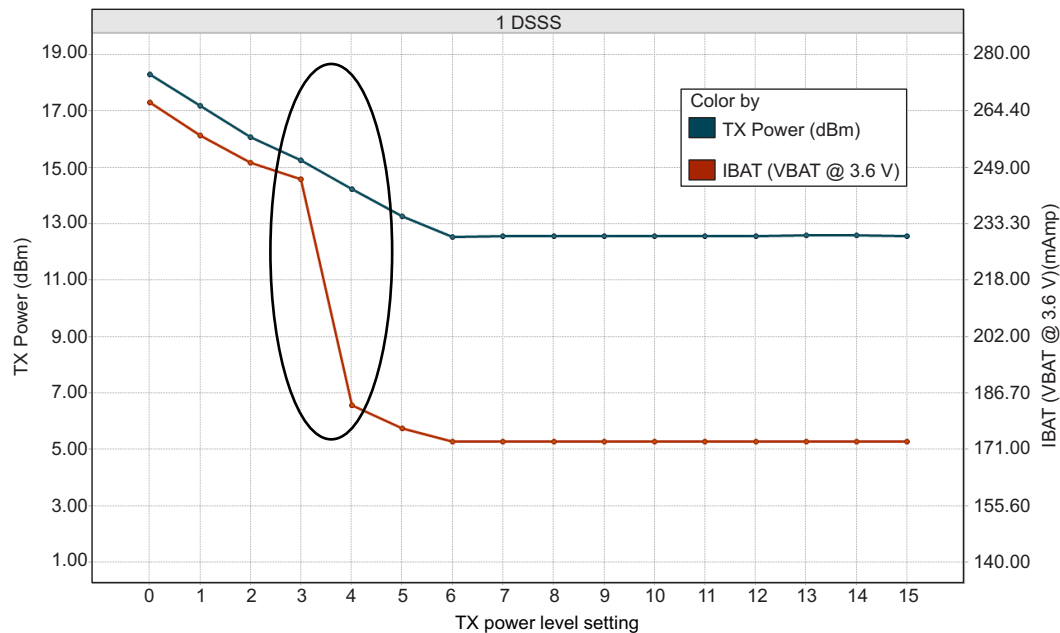
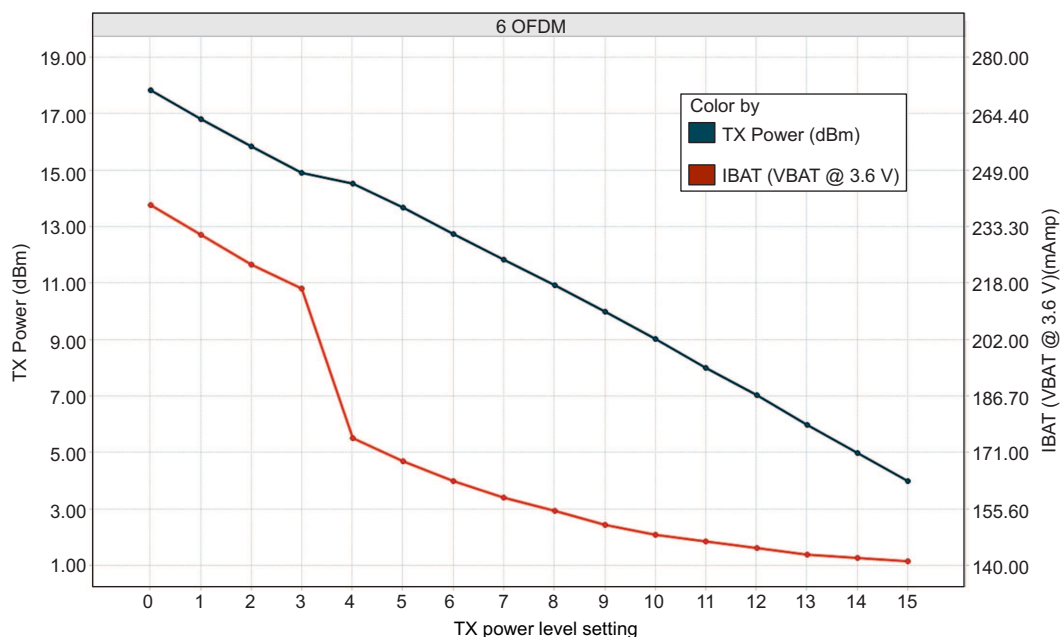
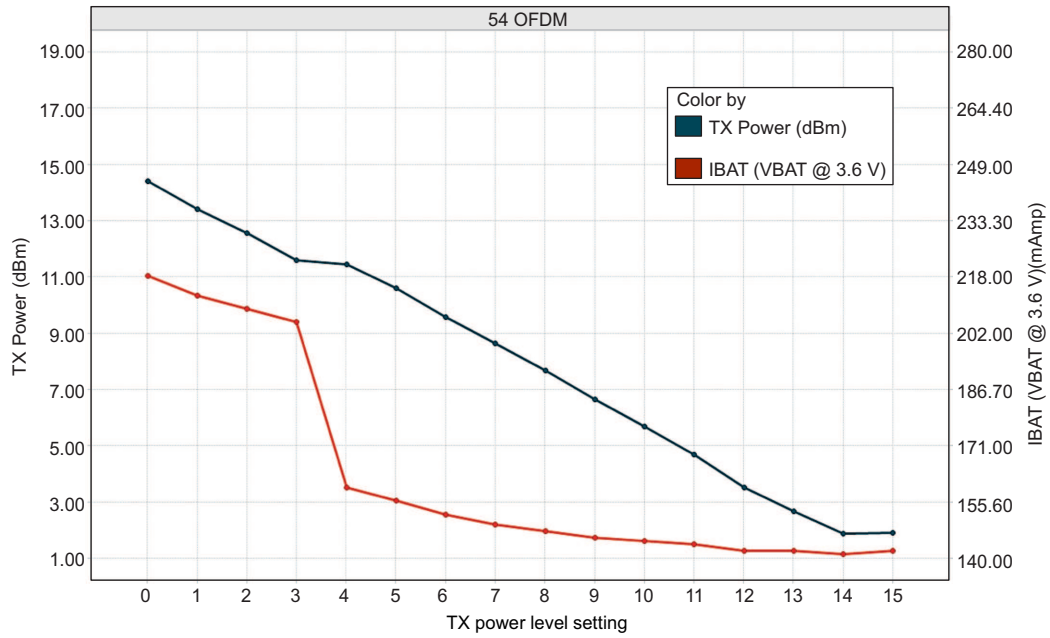

Figure 4-1. TX Power and IBAT vs TX Power Level Settings (1 DSSS)
Figure 4-2. TX Power and IBAT vs TX Power Level Settings (6 OFDM)
Figure 4-3. TX Power and IBAT vs TX Power Level Settings (54 OFDM)
(1) TX power level = 0 implies maximum power (see Figure 4-1, Figure 4-2, and Figure 4-3). TX power level = 4 implies output power backed off approximately 4 dB.
(2) The CC3220x system is a constant power-source system. The active current numbers scale based on the VBAT voltage supplied.
(3) DTIM = 1
(4) LPDS current does not include the external serial flash. The LPDS number of reported is with retention of 256KB of MCU SRAM. The CC3220x device can be configured to retain 0KB, 64KB, 128KB, 192KB, or 256KB of SRAM in LPDS. Each 64-KB block of MCU retained SRAM increases LPDS current by 4 μA .
(5) The complete calibration can take up to 17 mJ of energy from the battery over a time of 24 ms. In default mode, calibration is performed sparingly, and typically occurs when re-enabling the NWP and when the temperature has changed by more than 20°C. There are two additional calibration modes that may be used to reduced or completely eliminate the calibration event. For further details, see CC3120, CC3220 SimpleLink™ Wi-Fi® and IoT Network Processor Programmer's Guide.
(5) The complete calibration can take up to 17 mJ of energy from the battery over a period of 24 ms. Calibration is performed sparingly, typically when coming out of HIBERNATE and only if temperature has changed by more than 20°C. The calibration event can be controlled by a configuration file in the serial flash..
Figure 4-1, Figure 4-2, and Figure 4-3 show TX Power and IBAT versus TX power level settings for the CC3220R and CC3220S devices at modulations of 1 DSSS, 6 OFDM, and 54 OFDM, respectively. For the CC3220SF device, the IBAT current has an increase of approximately 10 mA to 15 mA depending on the transmitted rate. The TX power level will remain the same.
In Figure 4-1, the area enclosed in the circle represents a significant reduction in current during transition from TX power level 3 to level 4. In the case of lower range requirements (14-dBm output power), TI recommends using TX power level 4 to reduce the current.